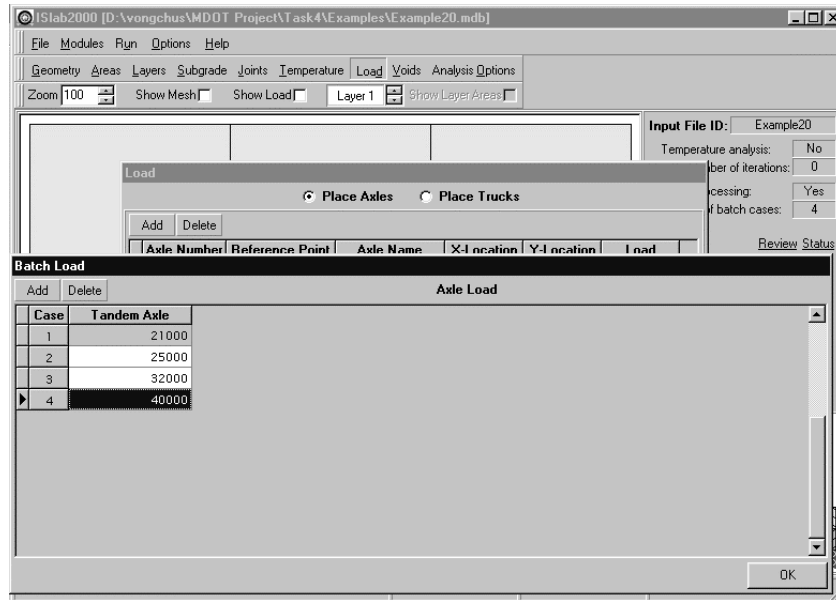

Figure E20-4: Edit Inputs for the Load Module (continued)
- Step 12: Select **Batch** and then click **Edit Batch** to open the batch load panel (see Figure E20-4)